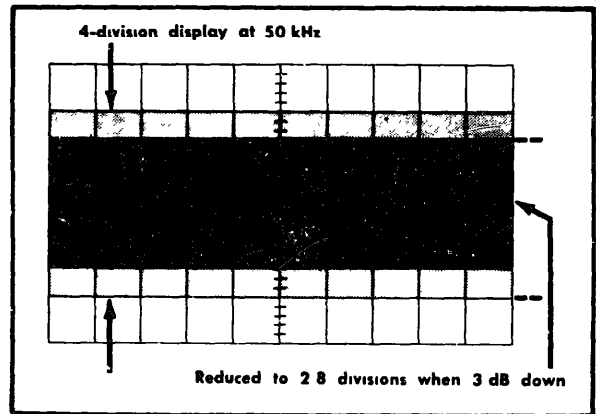

Fig 7-17. Typical CRT display when checking frequency response.
- d. Increase the frequency until there is exactly 2.8 cm of deflection See Fig 7-17